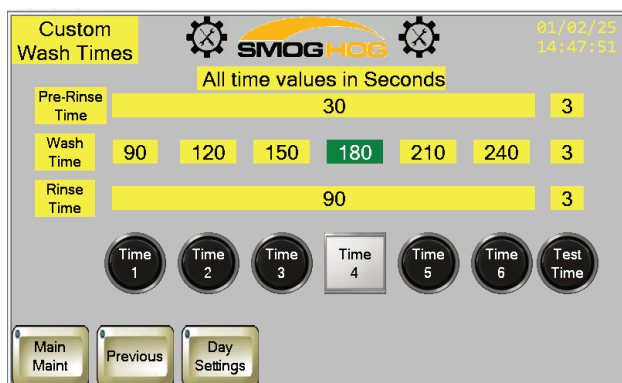

FIGURE 21c. Custom Wash Profile Selected
- Press the 'Day Settings' button to open the day of week screen as shown in Figure 21c.